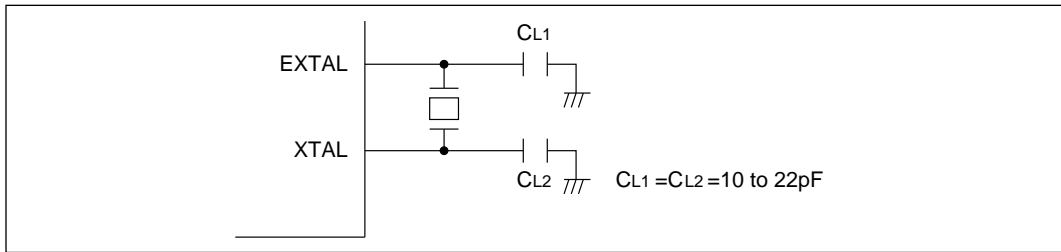

Figure 8-2 Connection of Crystal Oscillator (Example)
- (1) **Circuit Configuration:** An external crystal can be connected as in the example in figure 8-2. An AT-cut parallel resonating crystal should be used.